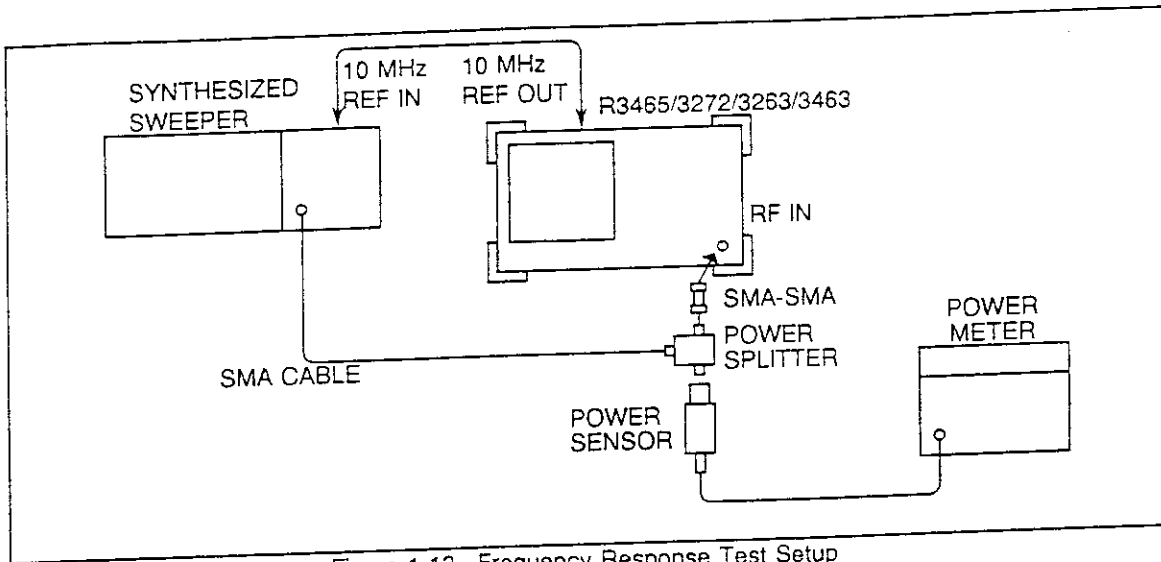

Figure 1-13 Frequency Response Test Setup
- (1) Zero and calibrate the power meter.
- (2) Connect the equipment as shown in Figure 1-13.
- (3) Press the INSTR PRESET key on the SG3. Set the SG3 controls as follows: